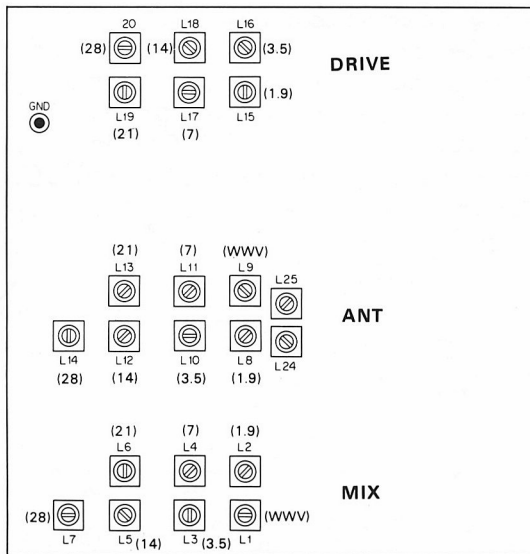
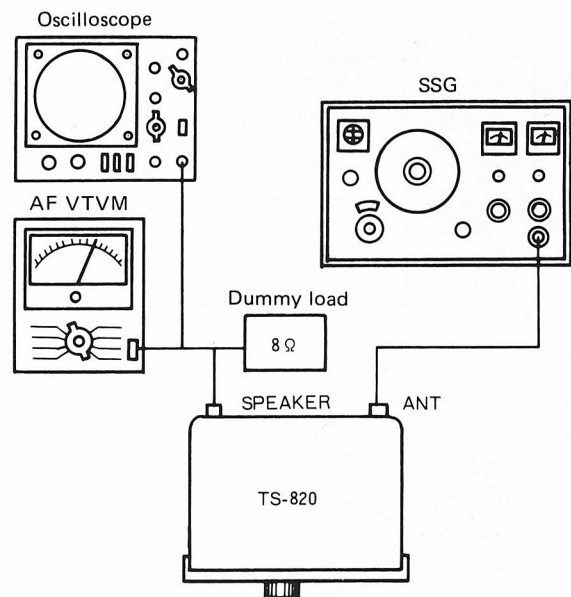

Fig. 23 Coil pack unit
Fig. 26 Adjustment of IF trap coil
Apply SSG output (or marker signal) at 60 dB to the antenna terminal and adjust the coil pack unit (X44-1140-00) in the following procedure of bands for maximum AF output (S meter reading) and maximum sensitivity. Reduce the SSG output suitably as the sensitivity increases (refer to **Table 1, Fig. 23**).
- 1) Make connection as shown in Fig. 26, and adjust receiving sensitivity at maximum. Then, while applying a signal of 8830 kHz at approx. 100 dB from SSG, adjust L24 and L25 in the coil pack unit (X44-1140-00) alternately and repeat the same procedure two or three times. Until S meter reading becomes minimum. When S meter pointer does not deflect, make adjustment until AF output becomes minimum (refer to Fig. 23 "Coil pack unit").